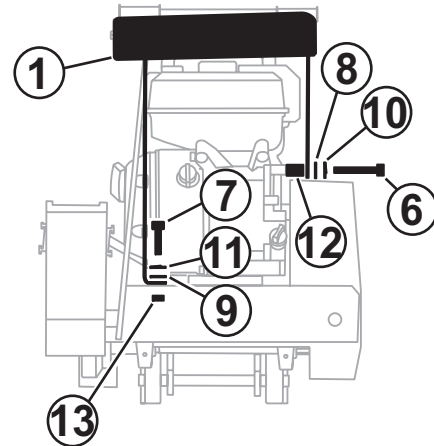

Figure 25. Water Tank Kit (Option)
2. Slide the Tank Shelf (item 1, Figure 25) over the top of the engine so the recoil starter fits through the large opening in the shelf. The recoil starter handle must be accessible through this opening. Ensure the recoil starter handle can be pulled without binding or interference with the shelving.
3. Mount the Tank Shelf to the frame using hardware items 7, 9, 11, and 13 to attach the shelf to the frame utilizing existing slots in the frame.
5. After determining the correct spacer length, place the spacers (item 12, Figure 25) between the engine block and the tank shelf bracket and secure the assembly with the 3/8" hardware (items 6, 8, and 10). Use the appropriate length bolt (item 6) for your application.